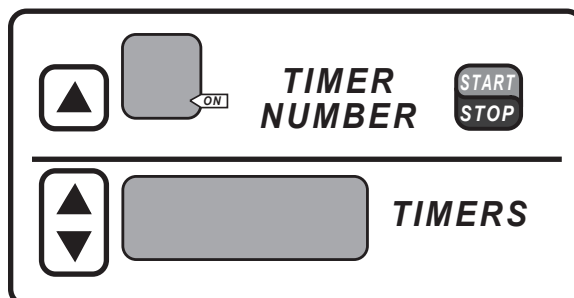

Fig. 22
1. Press and hold the TIMER NUMBER arrow button. While pressing the TIMER NUMBER arrow button, press the ON/OFF button (Fig. 22).